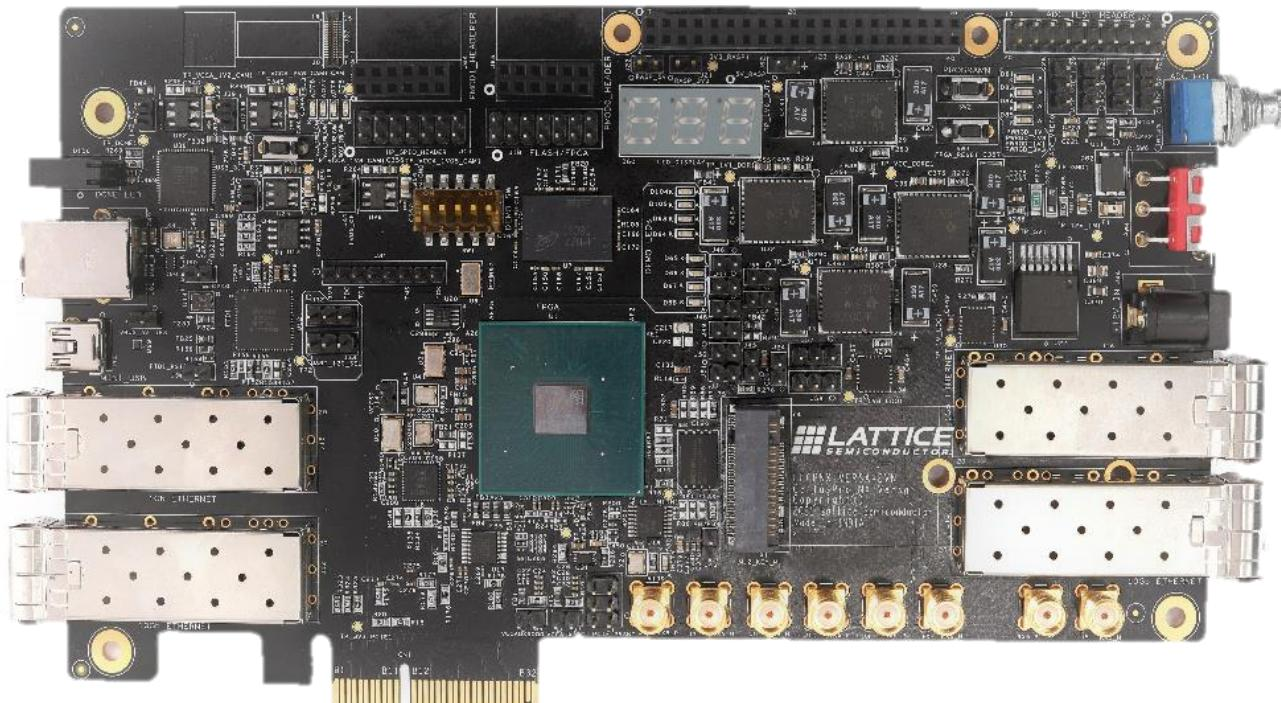

Figure 1.1. CertusPro-NX Versa Board
- CertusPro-NX Versa Board (Figure 1.1)